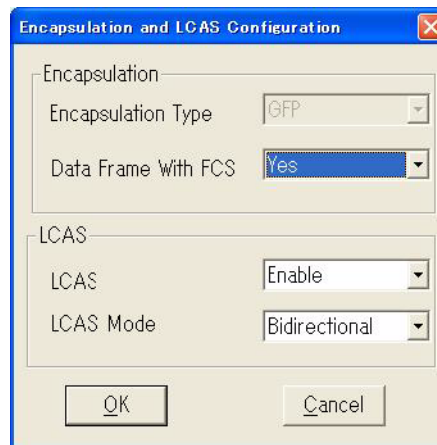

Fig. 4-4-77 Encapsulation and LCAS Configuration Dialog Box (2)
- 4 Double click a row of record then **Encapsulation and LCAS Configuration** dialog box of corresponding port will be shown in *Fig. 4-4-77* appears: